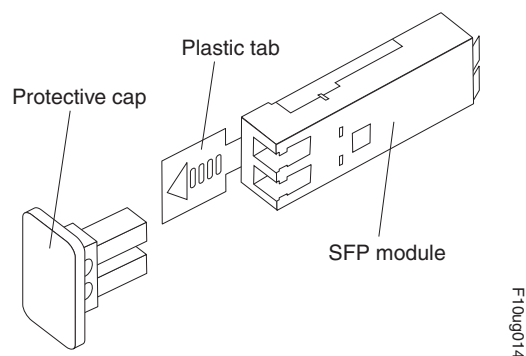

Figure 34. Small Form-Factor Pluggable (SFP) module
2. Remove the protective cap from the SFP module, as shown in Figure 34. Save the protective cap for future use.
2. If necessary, remove the protective cap from the SFP module, as shown in Figure 34 on page 47. Save the protective cap for future use.